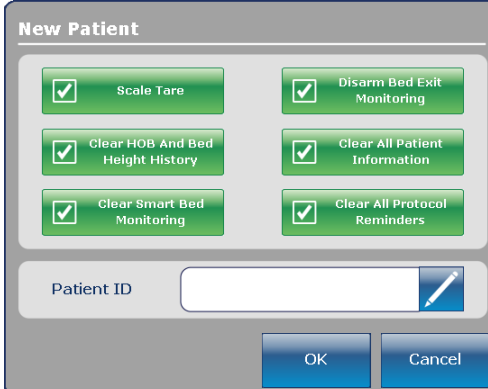

Figure 20: New patient
1. Tap the pencil (Figure 20 on page 37).
**Display Patient ID:** Displays the Patient ID. You can enter the Patient ID on the **New Patient** screen (Figure 20 on page 37).